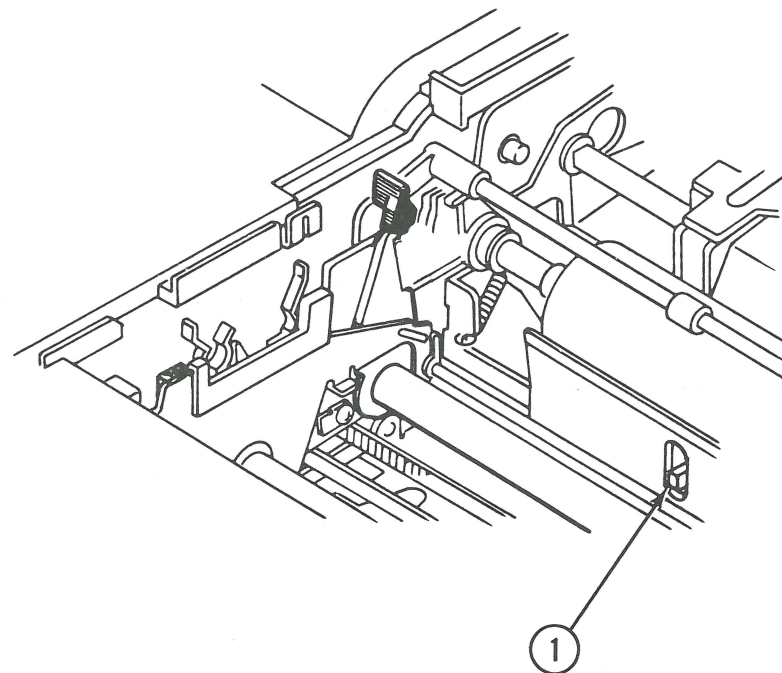

FIGURE 9
3. Connect the multimeter between pins 4 and 5 of the removed connector and alternately raise and release the paper-out sensor arm (Figure 9, #1).